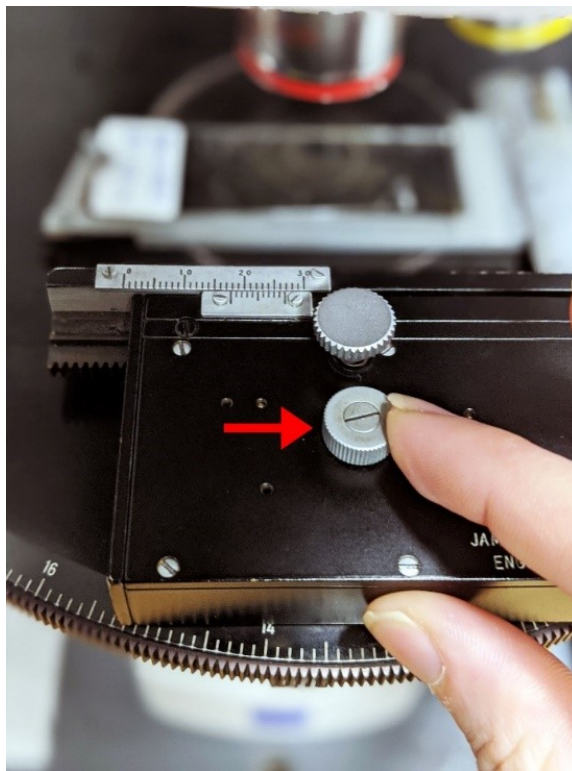

Figure 13: Knob being turned counterclockwise.
1. Turn the knob counterclockwise to release the gears and allow the holder to slide over to the left (*Figure 13*). The stage will start to move to left on its own and you should be able to move the stage freely right and left, but it will not stick yet.